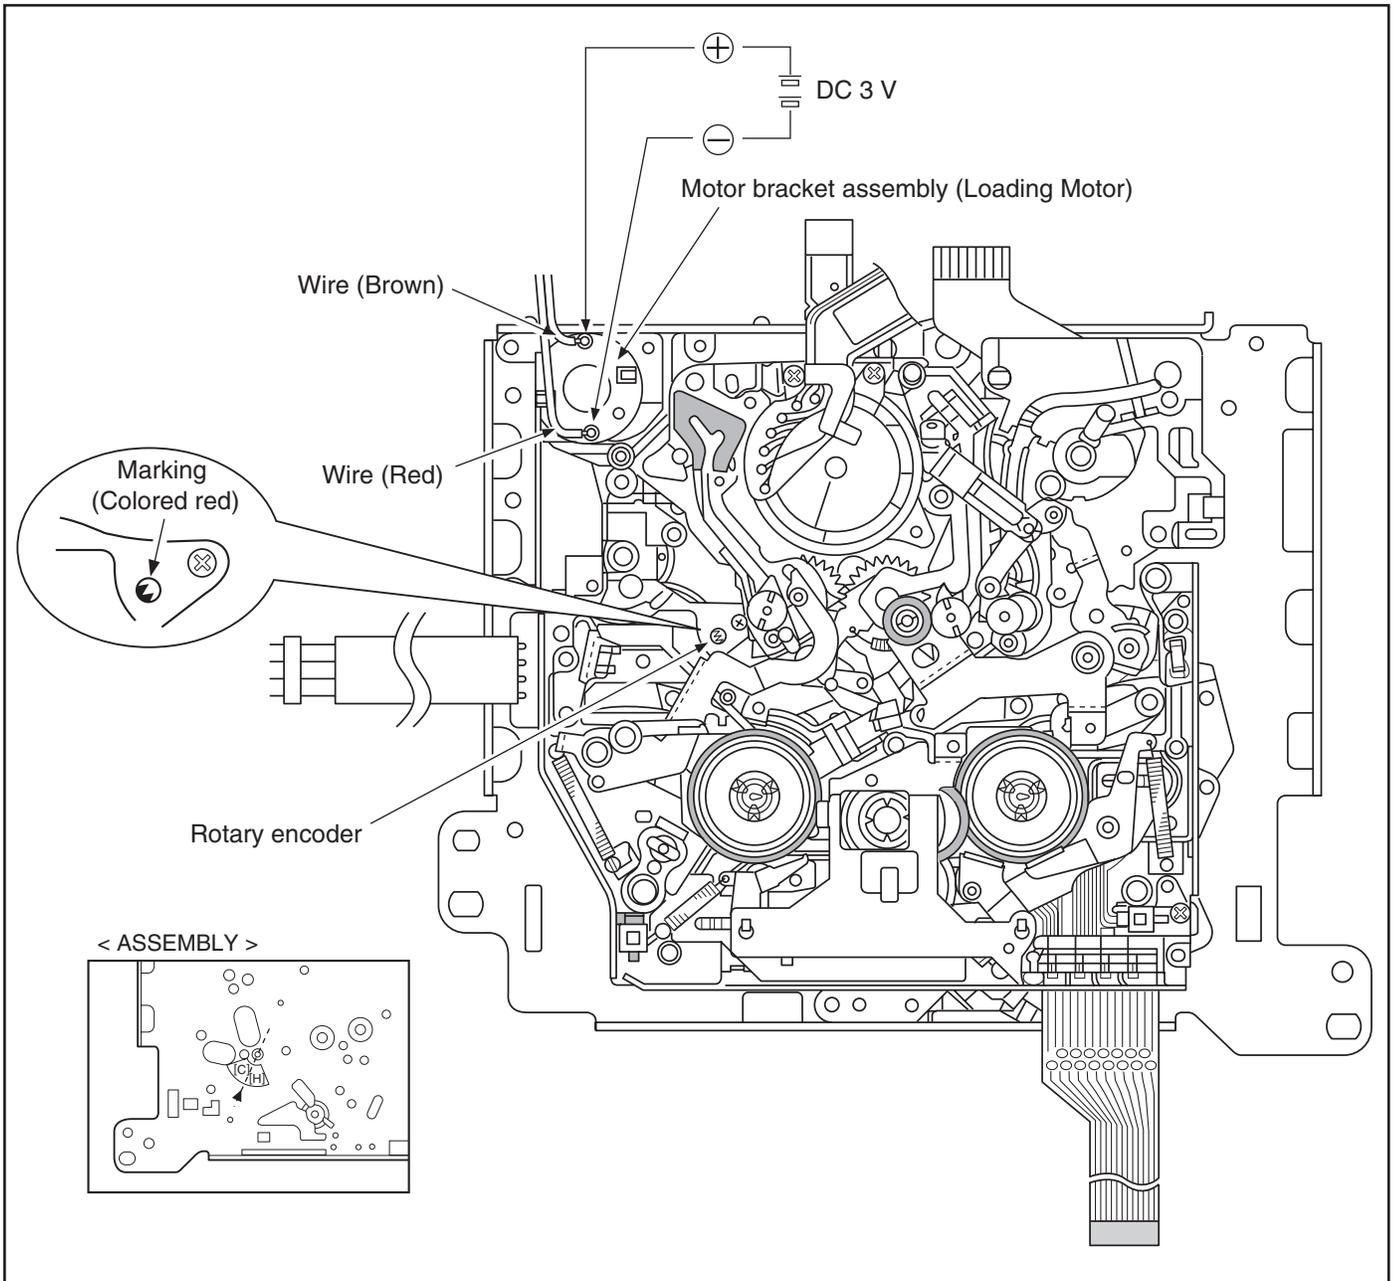

Fig.4-2-7
To set the ASSEMBLY mode, apply 3 V DC to the electrodes on the upper part of the loading motor as shown in Fig. 4-2-7.
- This mechanism assembly has another ASSEMBLY mode. However, this mode cannot be identified from the markings because it corresponds to an intermediate position between the C-IN (C) mode and S-FF (H) mode. This mode can be confirmed by the rotary encoder phase. See Fig. 4-2-7.